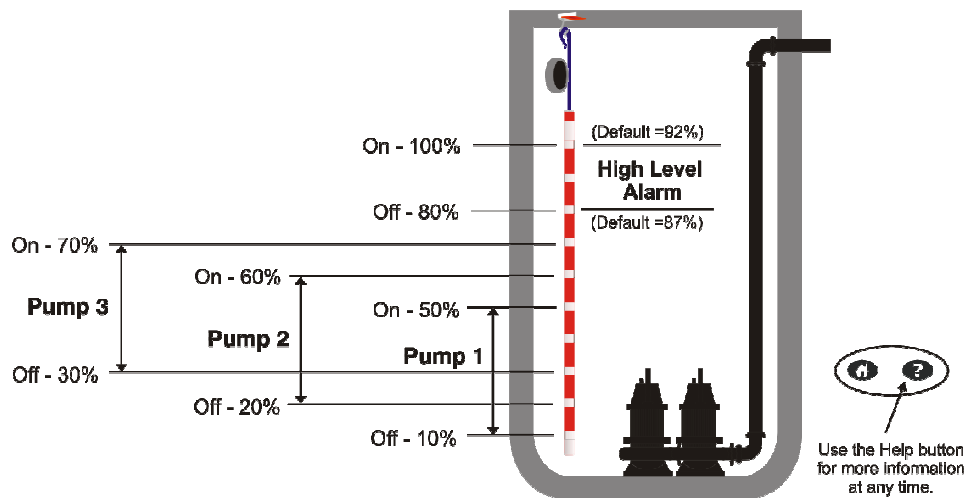

Figure 89: Empty (Discharge) Mode—Default Normal Levels
- The pump setpoint screen will be similar to Figure 89 - Setting Pump Levels (except with 4 pumps). Change the setpoints to 50/10, 50/10, 60/20, 60/20.